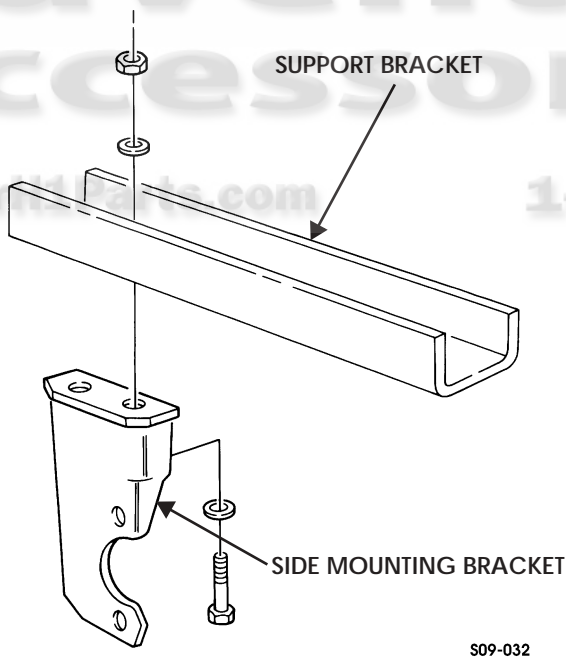

Figure 9-44: Support Bracket
6. Remove two locknuts, washers, capscrews, washers, and side mounting bracket from support bracket. Discard locknuts (Figure 9-44).
1. Install side mounting bracket on support bracket with two washers, capscrews, washers, and locknuts (Figure 9-44).